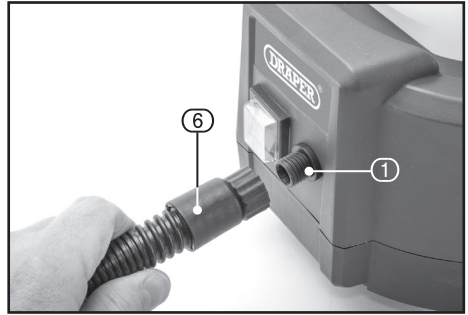
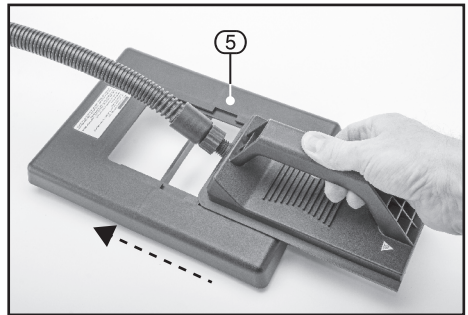

FIG.1
FIG.3
8.1 ATTACHING THE STEAM PLATES AND 'COOL-TOUCH' HOSE – FIGS. 1 – 3
- Attach 'cool-touch' hose (6) to the hose connection/outlet (1) at one end.
- At the remote end attach 'cool-touch' hose (6) to small steam plate (4).
Note: If you want to use the large steam plate (5) then the small steam plate (4) has to be located within it (see Fig.3).